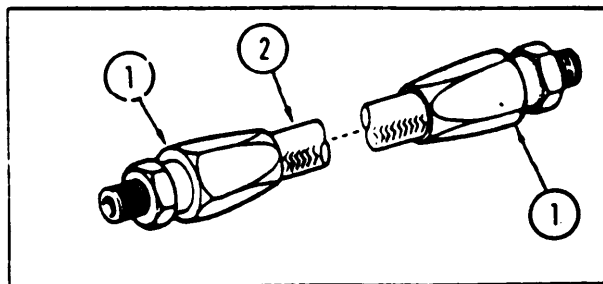

Figure 2-28. Trailer Air Brake Hose (ARMY)
b. Disassembly. (Figure 2-28) Remove hose fittings (1) from hose (2).
d. Assembly. (Figure 2-28) Install hose fittings (1) in hose (2).